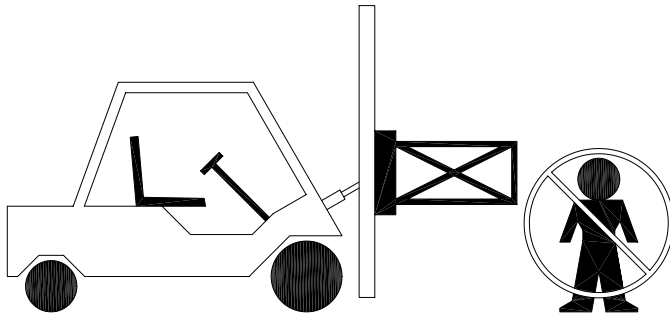

Figure 2-3
15. **Never** stand in front of or beside an attachment that is being operated. Never allow another person to approach an attachment that is being operated. (Figure 2-3)